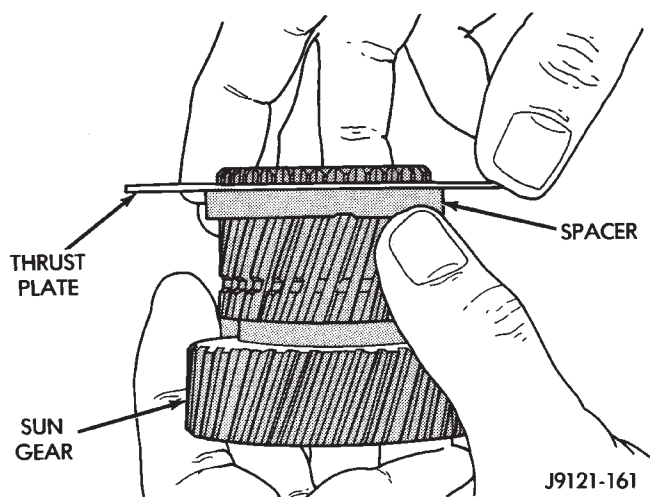

Fig. 153 Installing Driving Shell Front Thrust Plate On Sun Gear
(8) Install thrust plate on sun gear (Fig. 153). Note that driving shell thrust plates are interchangeable. Use either plate on sun gear and at front/rear of shell.